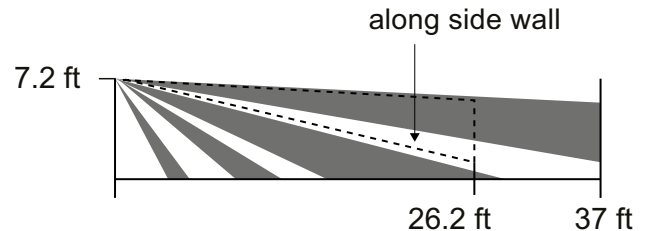

**Figure 2** Remove the EN1263 from the mounting bracket
3. Remove the EN1263 from the mounting bracket per Figure 2.